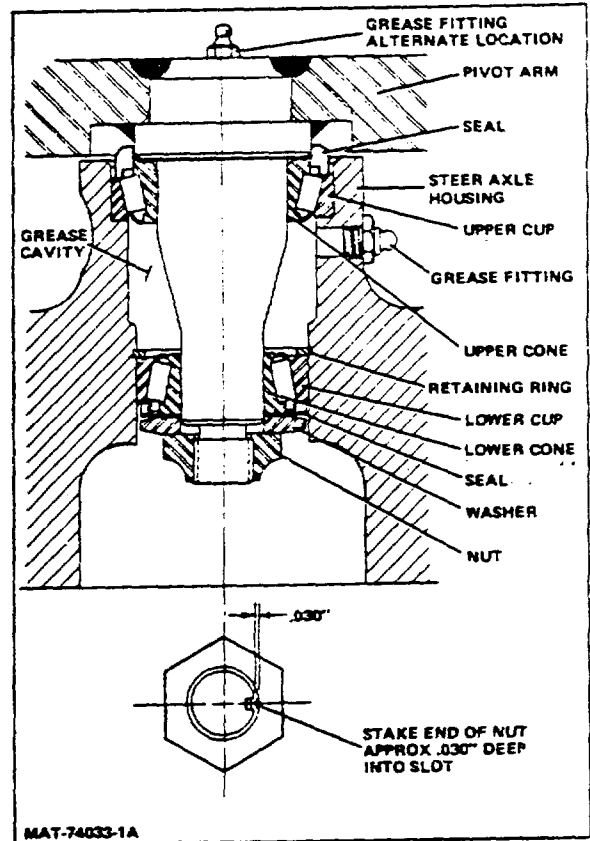

Figure 2-2. Pivot Arm Installation
3. Seat upper seal (Fig 2-2) on pivot arm firmly. Fill seal with specified grease.
13. After proper rolling torque is obtained, stake end of nut approximately .030" deep into slot (Fig 2-2).